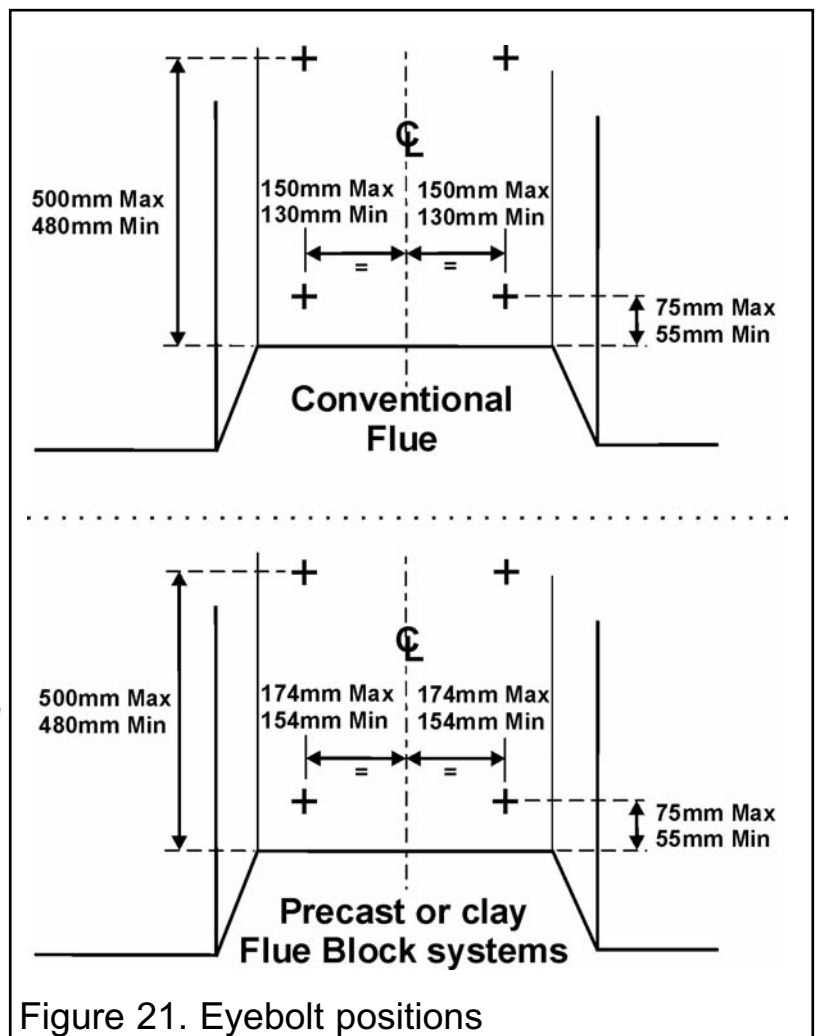

Figure 21. Eyebolt positions
**2.** Drill four holes in the rear wall of the fireplace for the fibre / wooden plugs. The holes should be drilled within the range of positions shown in figure 21 using a suitably sized masonry drill. The holes should be equidistant each side of the centre line of the fireplace to ensure that the appliance finishes centrally in the opening when tension is applied to the cables.